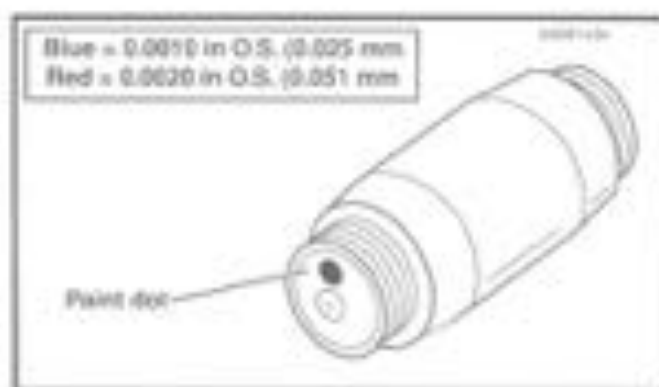

Figure 3-83. Oversize Crank Pin Identification
- See Figure 3-83. Oversize (OS) crank pins are available in two oversizes: 0.0010 and 0.0020 in. (0.025 and 0.051 mm) OS crank pins will have a blue or red paint dot applied to the ends of the pins. A blue dot indicates 0.0010 in. (0.025 mm) OS; a red dot indicates 0.0020 in. (0.051 mm) OS. Standard size crank pins will not be marked.